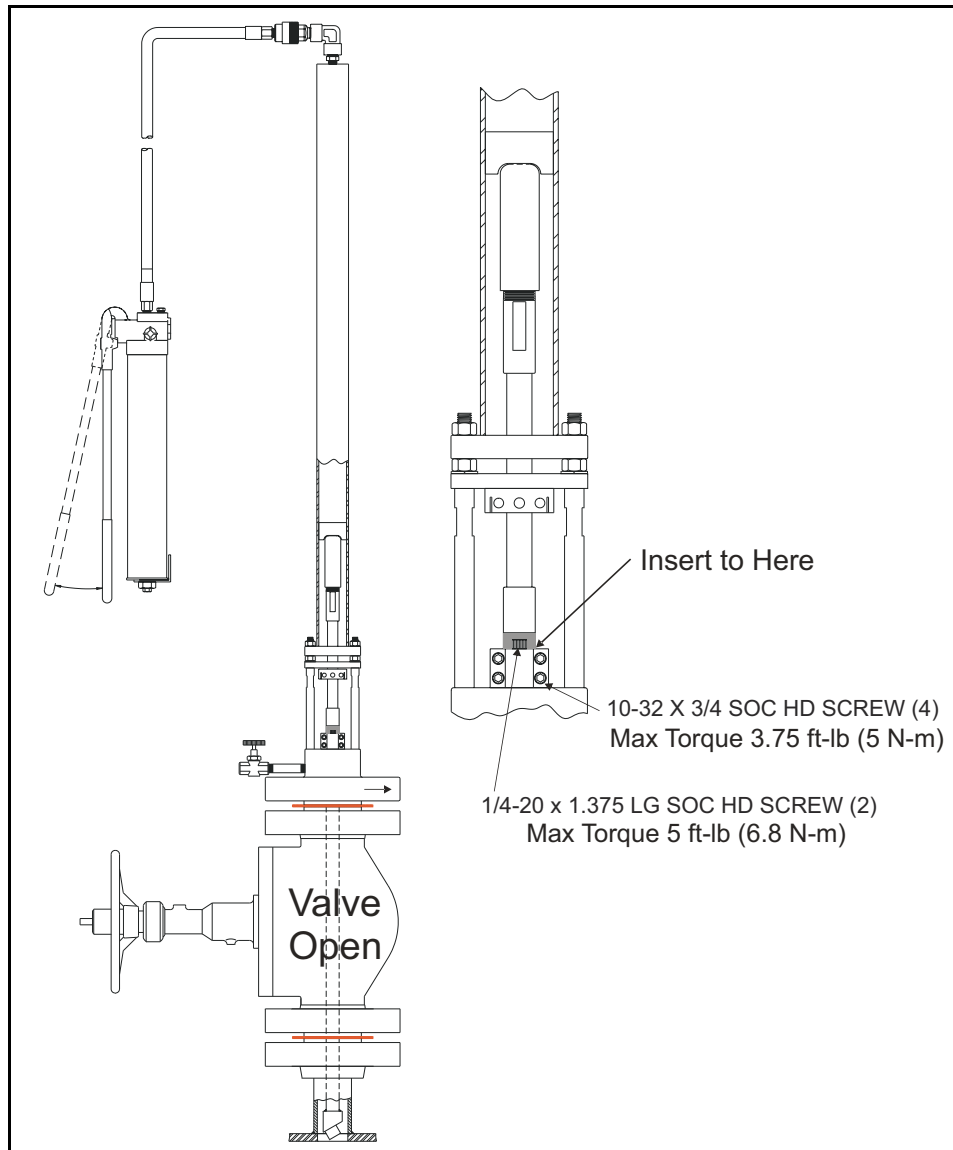

Figure 24: Pumping the Hydraulic Pump Handle
6. See *Figure 24* below and slowly pump the hydraulic pump handle until the transducer moves to the pre-marked insertion depth, as indicated by the edge of the electrical tape touching the edge of the locking collar. You will feel resistance on the hydraulic pump handle as you insert the transducer against the line pressure.
7. Tighten the locking collar screws with a torque wrench to fasten the transducer in place. Use the maximum torque listed in *Figure 24* above, but do not overtighten the screws.